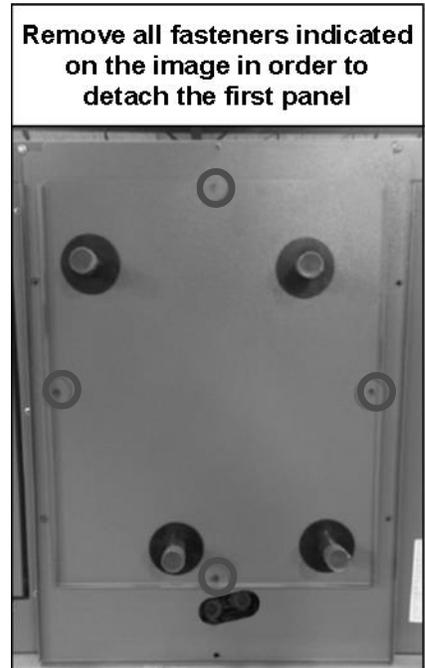

Figure 22
2. Isolate and drain coil from heating/cooling fluid and/or reclaim refrigerant. Disconnect unit from piping. Remove supply piping to allow access into the coil section from the side. Remove coil section outer access panel (See figures 22 to 28 for instructions). Note that there is another coil access panel on the opposite side of the unit, both access panels should be removed in order to take out the coils from the unit.